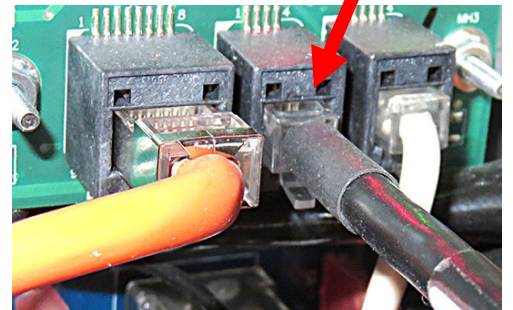

Figure 15
19. Attach the the RJ11 connector end of the adaptor, to the SIB board, where the terminator was removed in step 17 (see Figure 15).